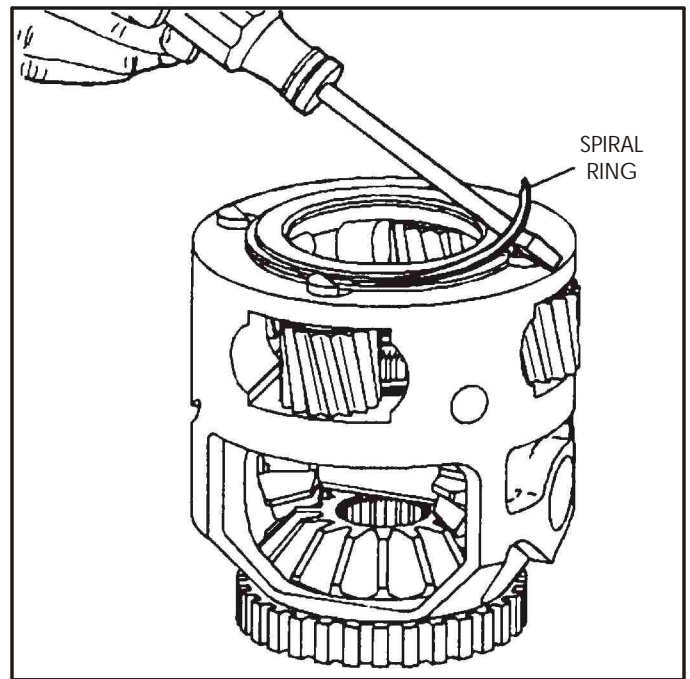

Figure 84
3. If the end play check or component inspection indicates a problem, with a screwdriver remove the spiral snap ring, as shown in Figure 84.